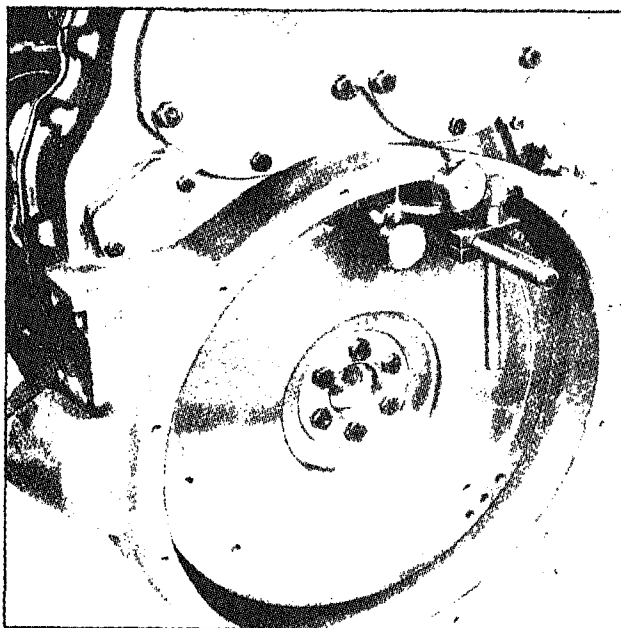

Fig. 9 - Checking Flywheel Housing Concentricity
- a. Refer to Fig. 9 and thread the base post J 9737-3 tightly into one of the tapped holes in the flywheel. Then assemble the dial indicators on the base post.